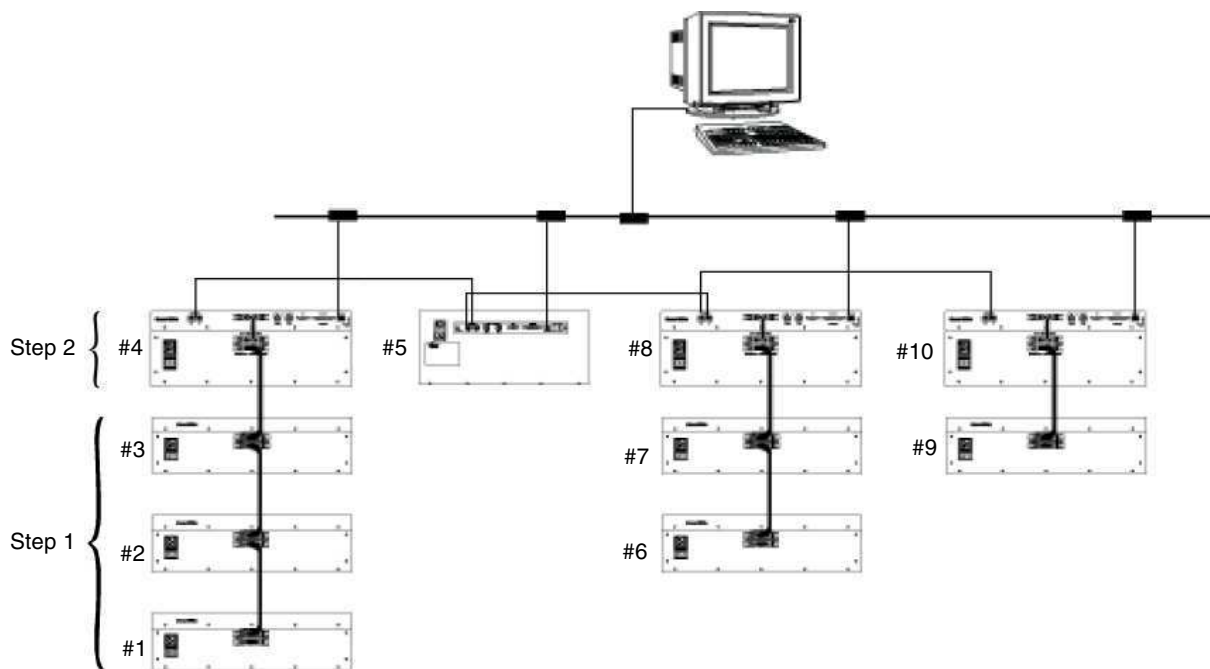

Figure A-5. Multiple Chassis Power Up Sequence
- A *dependent controller* may also be a *master controller* if it is an SMB-2000 and is also used in a stacking configuration as shown in *Figure A-5* on page 74.
For an example of powering up multiple chassis in sequential order, we will use the example shown in *Figure A-5* below.
For powering down and disconnecting the chassis, we will use the example shown in *Figure A-5 on page 74*.